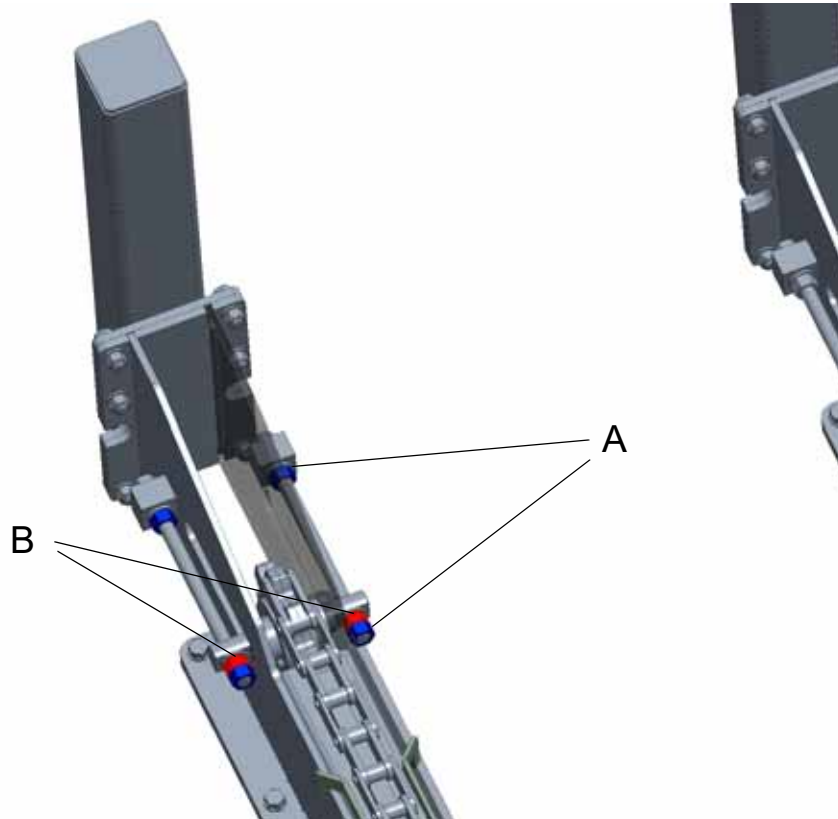

FIG. 5-21
See Figure 5-21 Tension the transport chain using the fasteners (A) & (B). Tension both sides evenly.